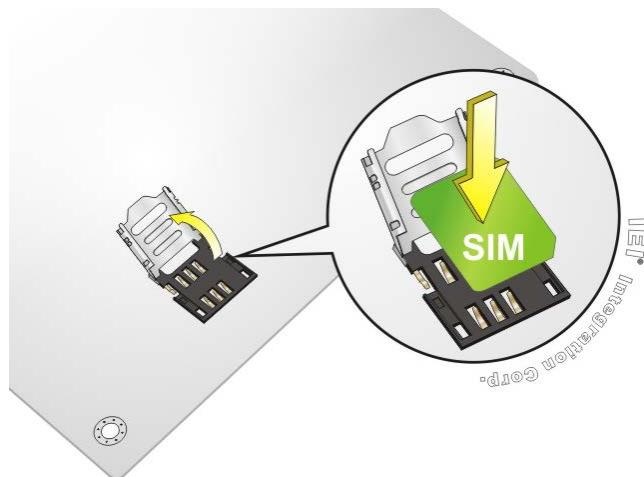

Figure 3-7: SIM Card Installation
Step 3: Open the slot cover and place a SIM card onto the slot. The cut mark on the corner should be facing away from the slot as shown in **Figure 3-7**.